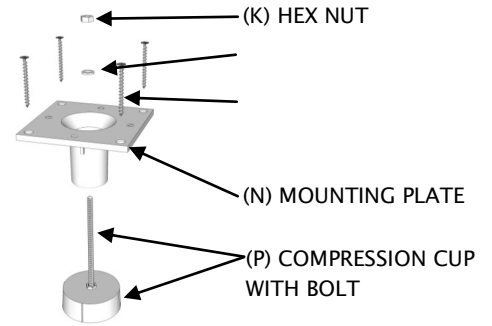

Fig. 38
A Railing Mounting Kit (Fig. 38) is shipped with every post and includes a Hex Nut (K), a Washer (L), 4 Self-tapping Screws (M), Mounting Plate (N), and Compression Cup with Bolt (P).